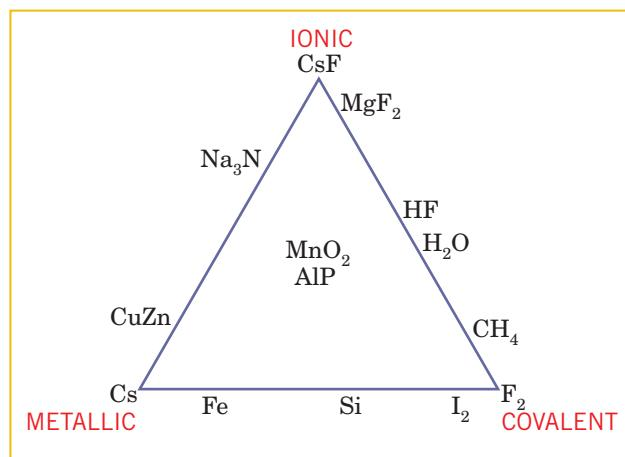

Figure 3.26 A bonding triangle showing that many substances exhibit bonding that is intermediate between ionic, covalent and metallic
All bonding is electrostatic in origin. Whether it is the attraction between positive metal ions and delocalised electrons, the attraction between oppositely charged ions, or the attraction between two nuclei for shared electrons, the source of the attractive force is the same. These three strong bond types are metallic, ionic and covalent bonds, respectively. However, except where the two atoms involved in the covalent bond are the same, or where the substance is a pure metal, all bonding involves some mix of these three types. One way of summarising these ideas is shown in Figure 3.26 where the three types of strong bonding are positioned at the vertices of a triangle. The nature of the bonding present in examples of compounds and elements is then shown in terms of the amounts of each of these three extremes that are present in the substances.
- 1 a Use electronegativity differences to explain the position of CsF, MgF₂, HF, H₂O, CH₄ and F₂ on the continuum between ionic and covalent bonding in Figure 3.26.